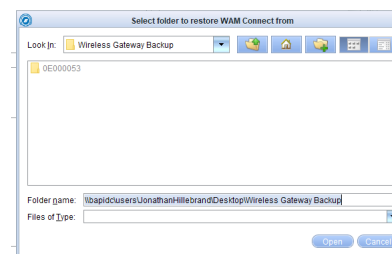
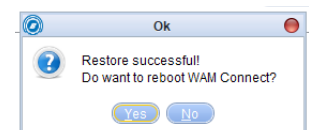

Fig. 20: Select Restore Folder Screen.
Fig. 21: Restore Successful Message.
2. Select the backup folder on your local computer or network from in the “Select Folder” Screen (Fig 20) and click “Open”. You will receive a “Restore Successful” confirmation screen (Fig 21) and also a request to reboot the system. Click “yes”.